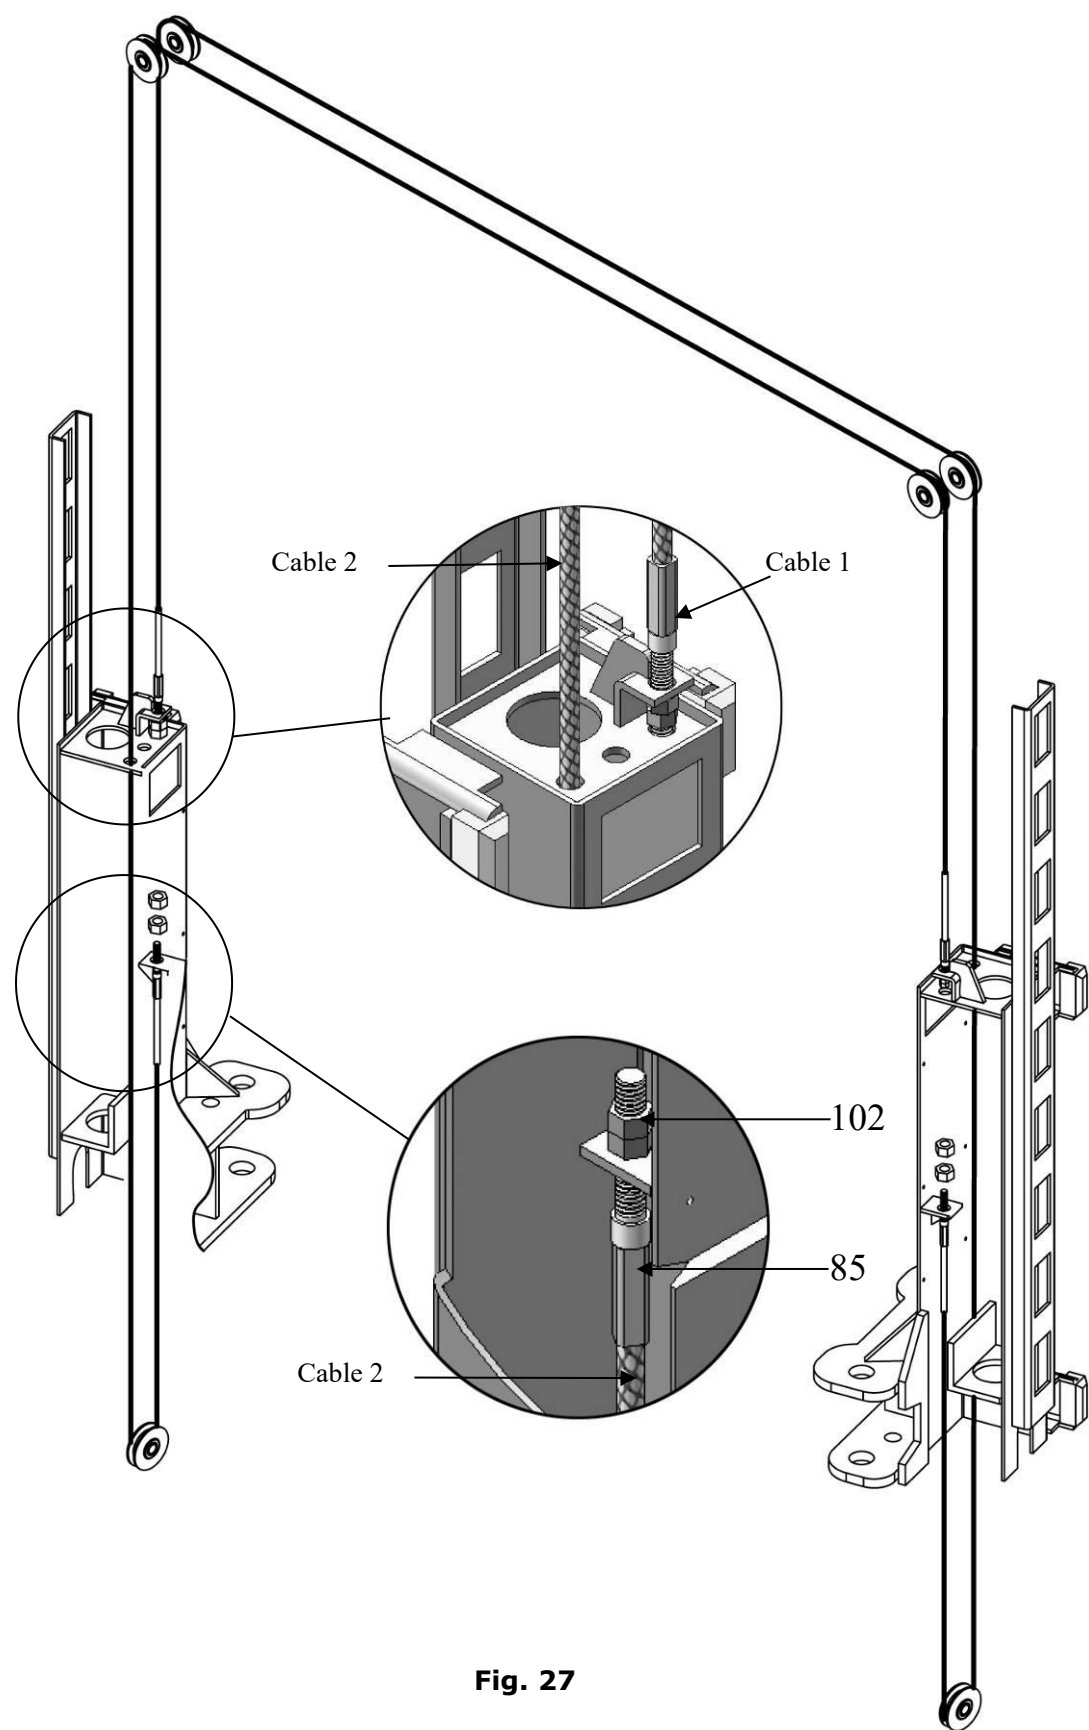

Fig. 27
2.2 Connecting cable for high setting (See Fig. 27).